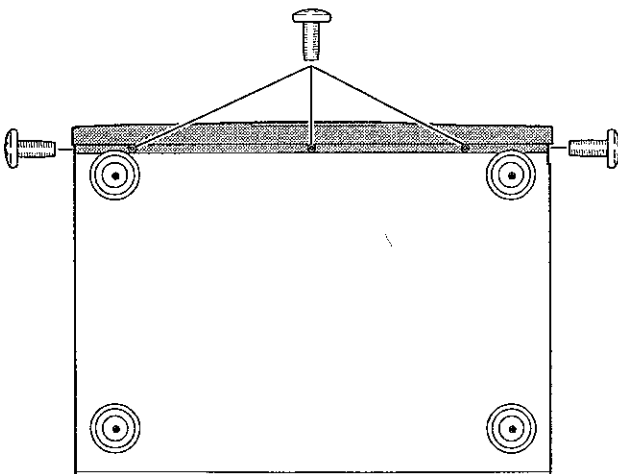

Fig. 2.3.1
- (2) Remove the Tray Panel from the Disc Tray by pulling it upward.
- (3) Remove the three screws on the bottom. See Fig. 2.3.1.
- (4) Remove the two screws on both sides of the unit. See Fig. 2.3.1.